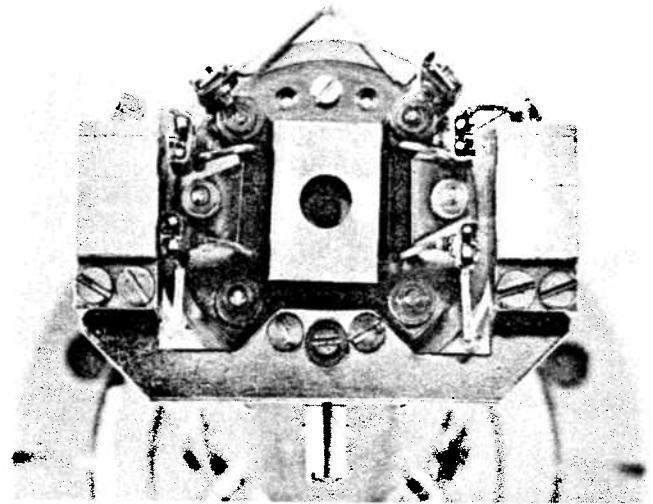

Fig. 9.2.
4. Magneteinheit wie Fig. 9.2. auf der Ionenquelle mit den beiden Senkkopfschrauben so befestigen, dass die Magnete parallel zu den Kathodenblöcken sind.
In April 1975 the wiring of the cross beam ion source was reshaped. Now it is possible to mount the magnet unit without removing the wiring. With older models, the wiring must be replaced by a new type. Extraction electrode and formation chamber must be provided with suitable recesses, and the base plate must be furnished with 2 threaded holes beside the fastening screws (see fig. 9.2.). The model shown in Fig. 5.1.2. is not suitable for the magnet unit.
4. Using the two screws, fasten the magnet unit on the ion source as shown in fig. 9.2. The magnets must be parallel to the cathode blocks.